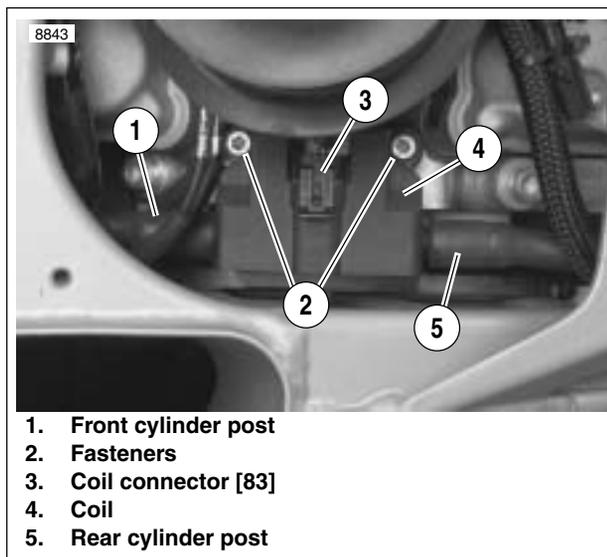

Figure 4-39. Ignition Coil Location
4. See Figure 4-39. Disconnect the spark plug cables from the coil plug posts (1, 5).
5. Detach connector (3) [83].
6. Remove coil fasteners (2).
2. See Figure 4-39. Attach coil to frame with fasteners (2). Tighten to 120-144 **in-lbs** (13.6-16.3 Nm).
4. Attach connector (3) [83].